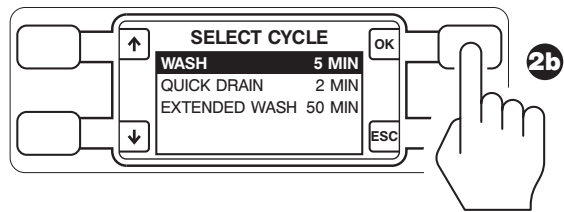

Figure 42 To Select Wash Cycle
b. From the SELECT CYCLE screen, push the buttons next to the arrow icons to scroll and highlight the appropriate wash cycle. Push the button next to the OK icon to select the highlighted cycle (Figure 42).